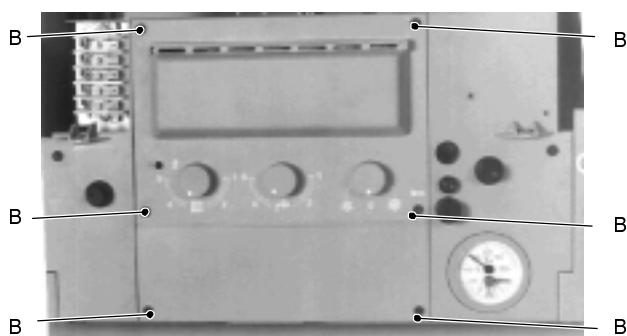

fig. 47
- 2 unscrew the six screws B (fig. 47) and remove both panels;